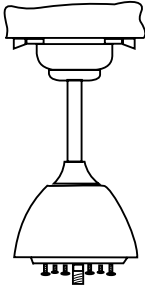

Figure 9
- 6 Raise up the canopy to the ceiling to cover the mounting bracket, making sure the canopy will sit into the two screws on the mounting bracket. Then rotate the canopy to ensure the screw heads are at the narrow end of the holes. (Fig. 9)